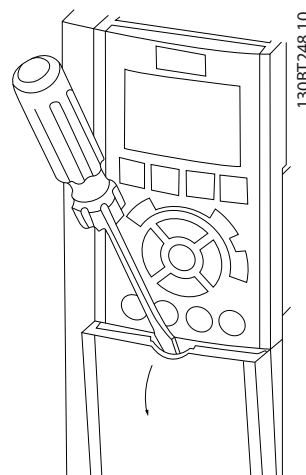

Figure 2.9 Control Wiring Access for A2, A3, B3, B4, C3 and C4 Enclosures
- Remove access cover plate with a screwdriver. See Figure 2.9.